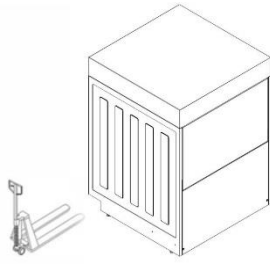

Figure 6 Positioning Machine
- Be cautious to remove the protective film from the external plate, but not to be torn, to avoid adhesive mark remained (Figure 6).